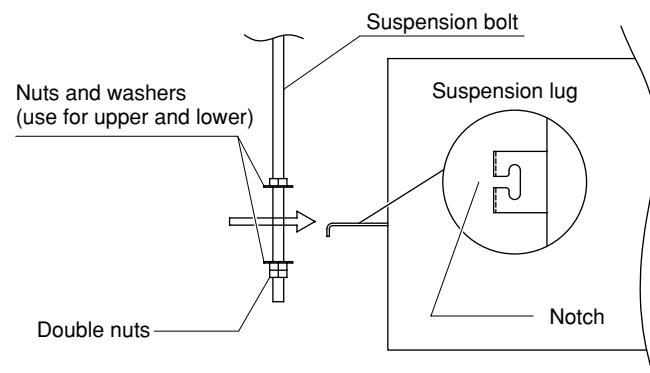

Fig. 3-102
- (3) Thread the 3 hexagonal nuts and 2 washers (field supply) onto each of the 4 suspension bolts as shown in Figs. 3-102 and 3-103. Use 1 nut and 1 washer for the upper part, and 2 nuts and 1 washer for the lower part, so that the unit will not fall off the suspension lugs.